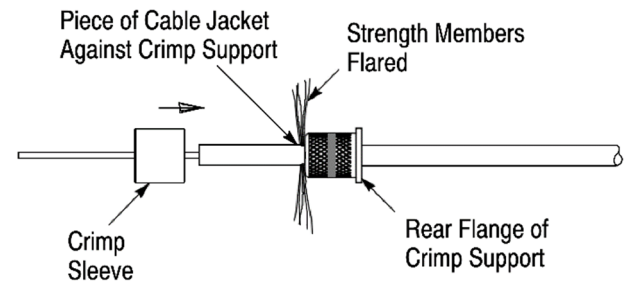

Figure 4
1. Apply a continuous bead of the LOCTITE 480 instant adhesive around the cable jacket between 4 and 5 mm from the stripped end of the jacket. See Figure 4, Detail A.
2. Rotate and slide the crimp support (large diameter end first) over the fiber and strength members and onto the jacket until it bottoms. See Figure 4, Detail B.
3. Apply a thin band of the instant adhesive around the knurled portion of the crimp support. Make sure that the band is continuous around the entire circumference. See Figure 4, Detail C.
4. Slide the piece of cable jacket (stripped from the cable in Paragraph 5.1) over the buffered fiber and into the center of the strength members until it bottoms against the crimp support and the strength members are flared away from the fiber. See Figure 4, Details D and E.
5. Slide the crimp sleeve over the fiber and piece of cable jacket so that the strength members fold back evenly around and over the crimp support and until it bottoms on the rear flange of the crimp support; then remove the piece of cable jacket. **This step should be performed quickly before the adhesive begins to harden.** See Figure 4, Detail E.